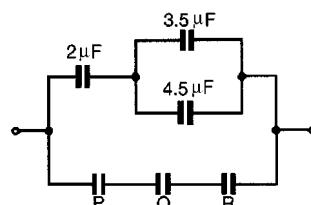

Figure 6.12
- 9 In Fig. 6.12 capacitors P , Q and R are identical and the total equivalent capacitance of the circuit is $3\mu F$. Determine the values of P , Q and R [4.2 μF each]